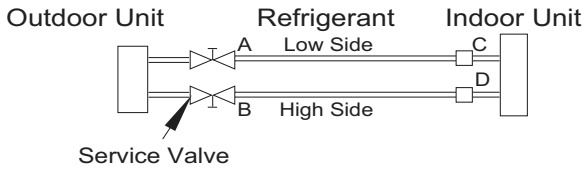

Fig. 23 — Service Valve
- Completely tighten flare nuts A, B, C, D. Connect the manifold gage charge hose to a charge port of the low side service valve (see Fig. 23).